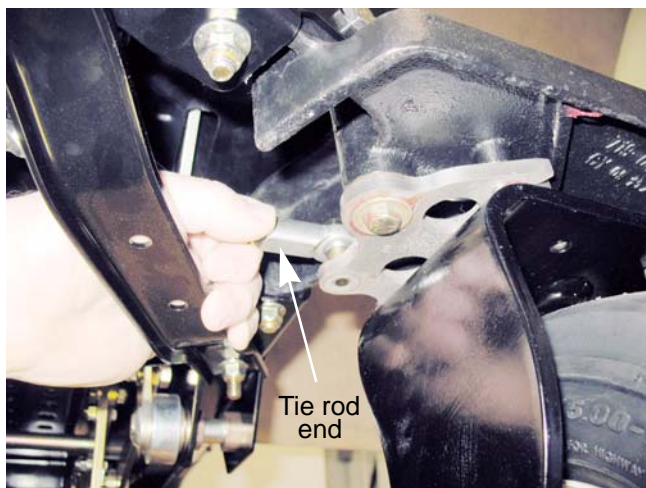

Figure 6.7
7. Disconnect one end of the tie rod. See Figure 6.7.